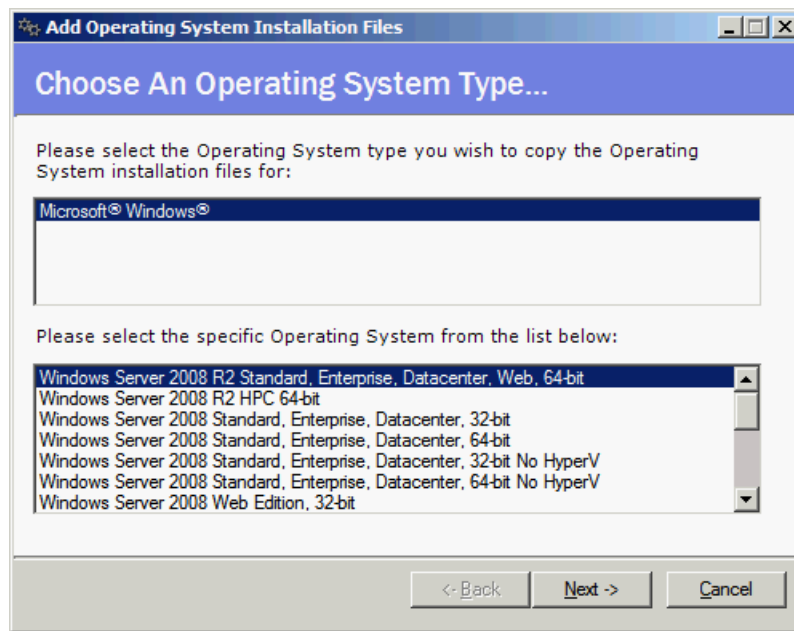

Figure 7-47 Select the OS type
3. Choose the OS type that you want and click **Next**, as shown in Figure 7-47.